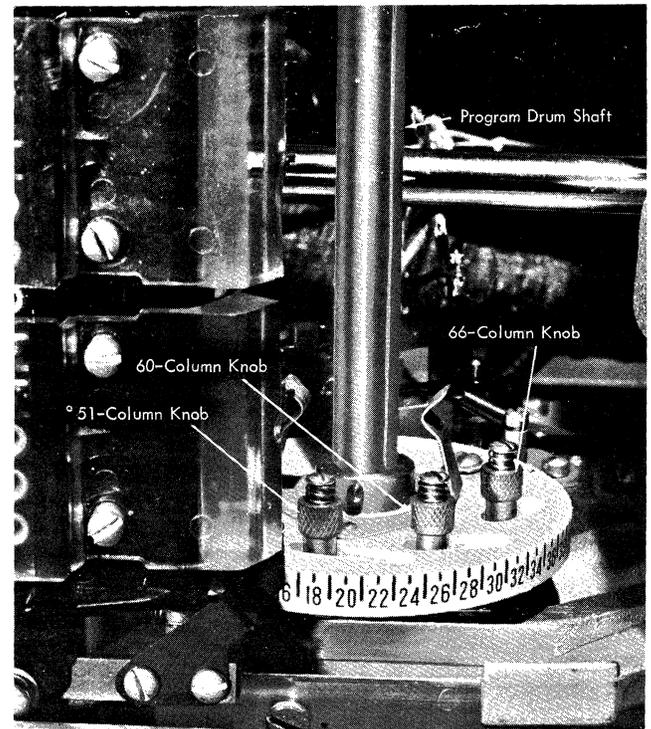

Figure 22. Program Cam Extension Knobs (80-Column Card Setting)
4. The following settings are necessary whether or not a program drum is used. To set program cam extension knobs, lift the program drum cover forward, turn the program control lever to raise the program drum starwheels, and lift the drum off its shaft (Figure 22). Space to column 16 on the column indicator and turn off the main line switch.